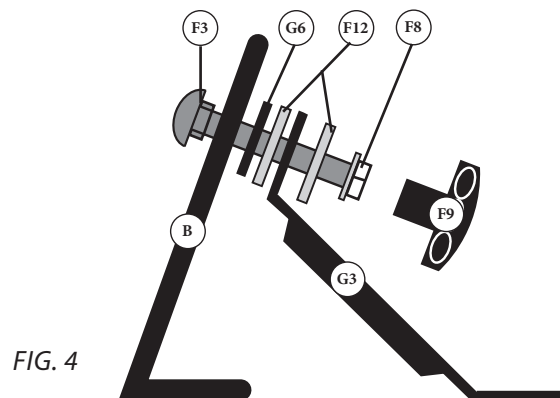

FIG. 4
- 3** Turn Cone Assembly (B) upside down and install strut (G3) using one Carriage Bolt (F3), Rubber Washer (G6), Two Flat Washers (F12), and fasten with a Whiz-Lock Nut (F8) as shown in [FIG 4.]